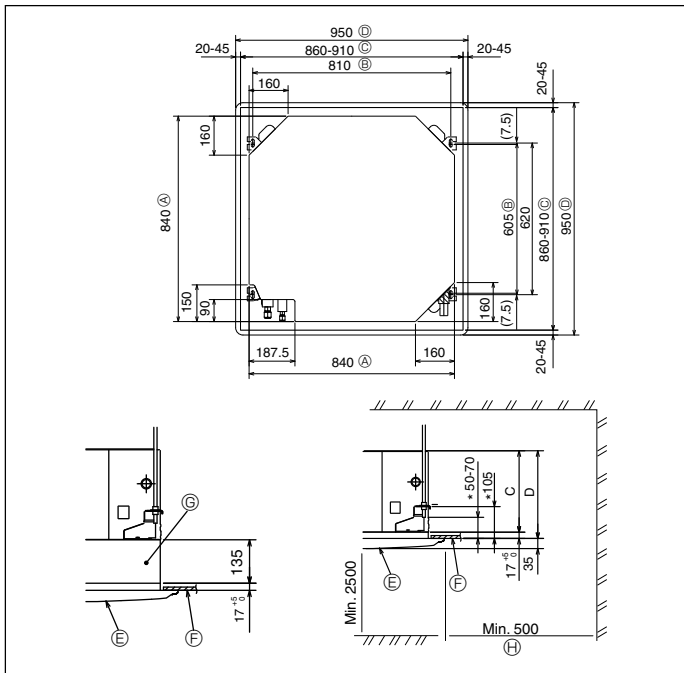

Fig. 3-2
④ Band	8
⑤ Screw with washer (M5 × 25) for mounting grille	4
⑥ Drain socket	1
⑦ Insulation	1
⑧ Flare nut 1/4F(P60)	1
3.2. Ceiling openings and suspension bolt installation locations (Fig. 3-2)
- The dimensions of ceiling opening can be regulated within the range shown in Fig.3-2; so center the main unit against the opening of ceiling, ensuring that the respective opposite sides on all sides of the clearance between them becomes identical.